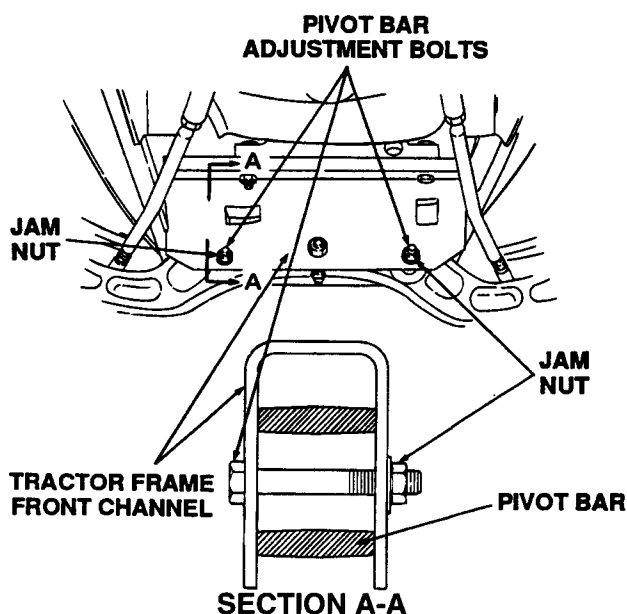

Figure 5-11. Pivot Axle Limiter Bolt Adjustment.
4. Install and adjust the limiter hex cap screws (2) as follows:
- a. Insert the hex cap screws (2) through the frame channel and pivot axle (9), and secure with the hex flanged lock nuts (5).
- b. Pivot the ends of the axle up and down to check for binding. If the axle is binding, loosen the lock nuts until binding is eliminated (see Fig. 5-11).